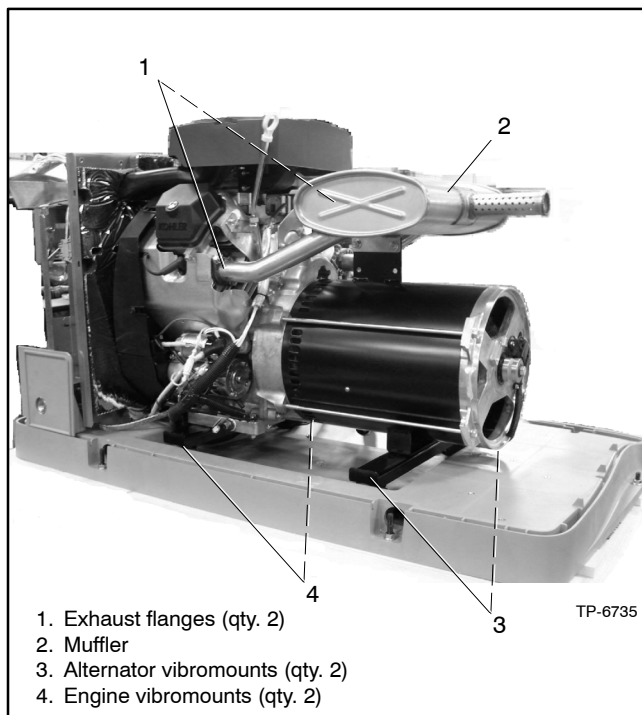

Figure 6-11 Muffler and Vibromounts
19. Disconnect the muffler from the engine at the two flange connections and remove the muffler. See Figure 6-11.
21. Remove the bolts securing the two alternator end vibromounts to the skid. Loosen the two engine vibromounts. See Figure 6-11.